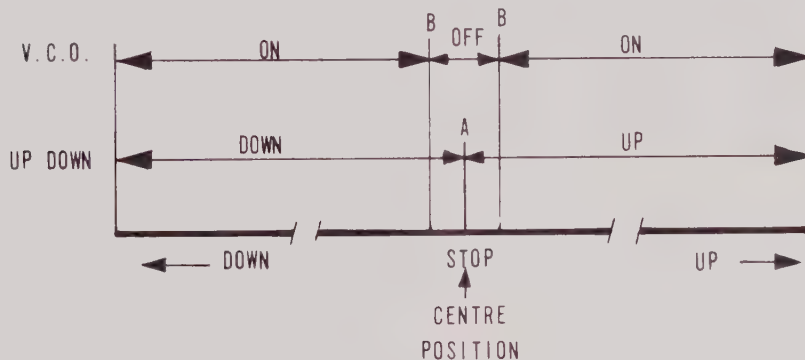

Fig. 8.1. Control range SET potentiometer R1
8.3.5.3. V.C.O. adjusting (unit 23). Refer to fig. 8.1.
- Check that the V.C.O. frequency is 1 Hz at the moment that the V.C.O. circuit is enabled (points B in fig. 8.1.).